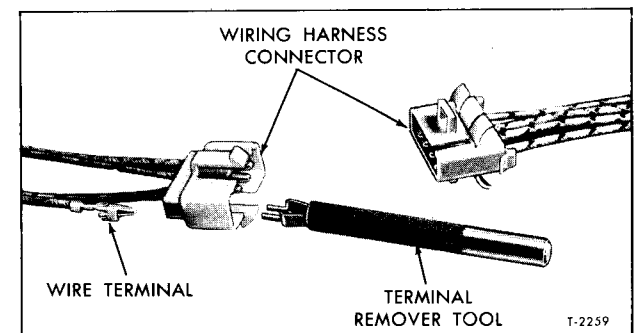

Figure 7—Removing Terminals From Connector
2. Disconnect directional signal switch cable assembly connector from chassis wiring harness connector. Use Electrical Terminal Remover (J-21091) (fig. 7) to remove wire terminals from cable connector.